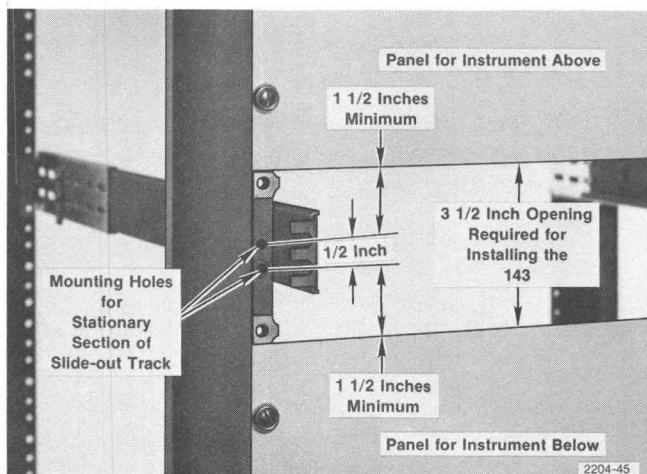

Fig. 5-12. Dimensions for mounting front of stationary sections.
1. Select the stationary section mounting holes. The 143 requires 3 1/2 inches of vertical space. If the 143 is to be mounted directly under another instrument, the **top** mounting screw for the stationary section will be 1 1/2 inches below the panel of the instrument above. If it is to be mounted directly above another instrument, the **bottom** mounting screw for the stationary section should be 1 1/2 inches above the panel below. See Fig. 5-12 for dimensions.